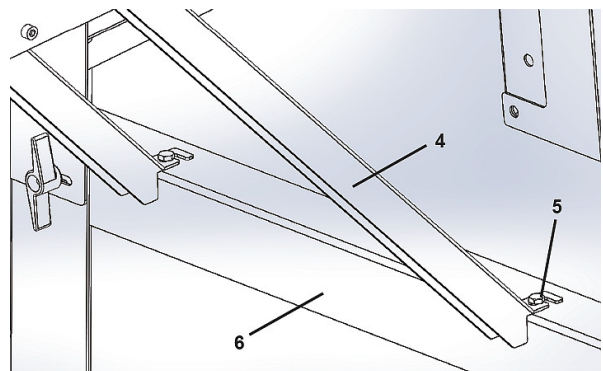

Fig. 8: Mount the cross struts of the table extension
Step 7: Mount cross strut (Pos.4, Fig.8) for table extension with screws, washers and nuts (Pos.5, Fig.8).